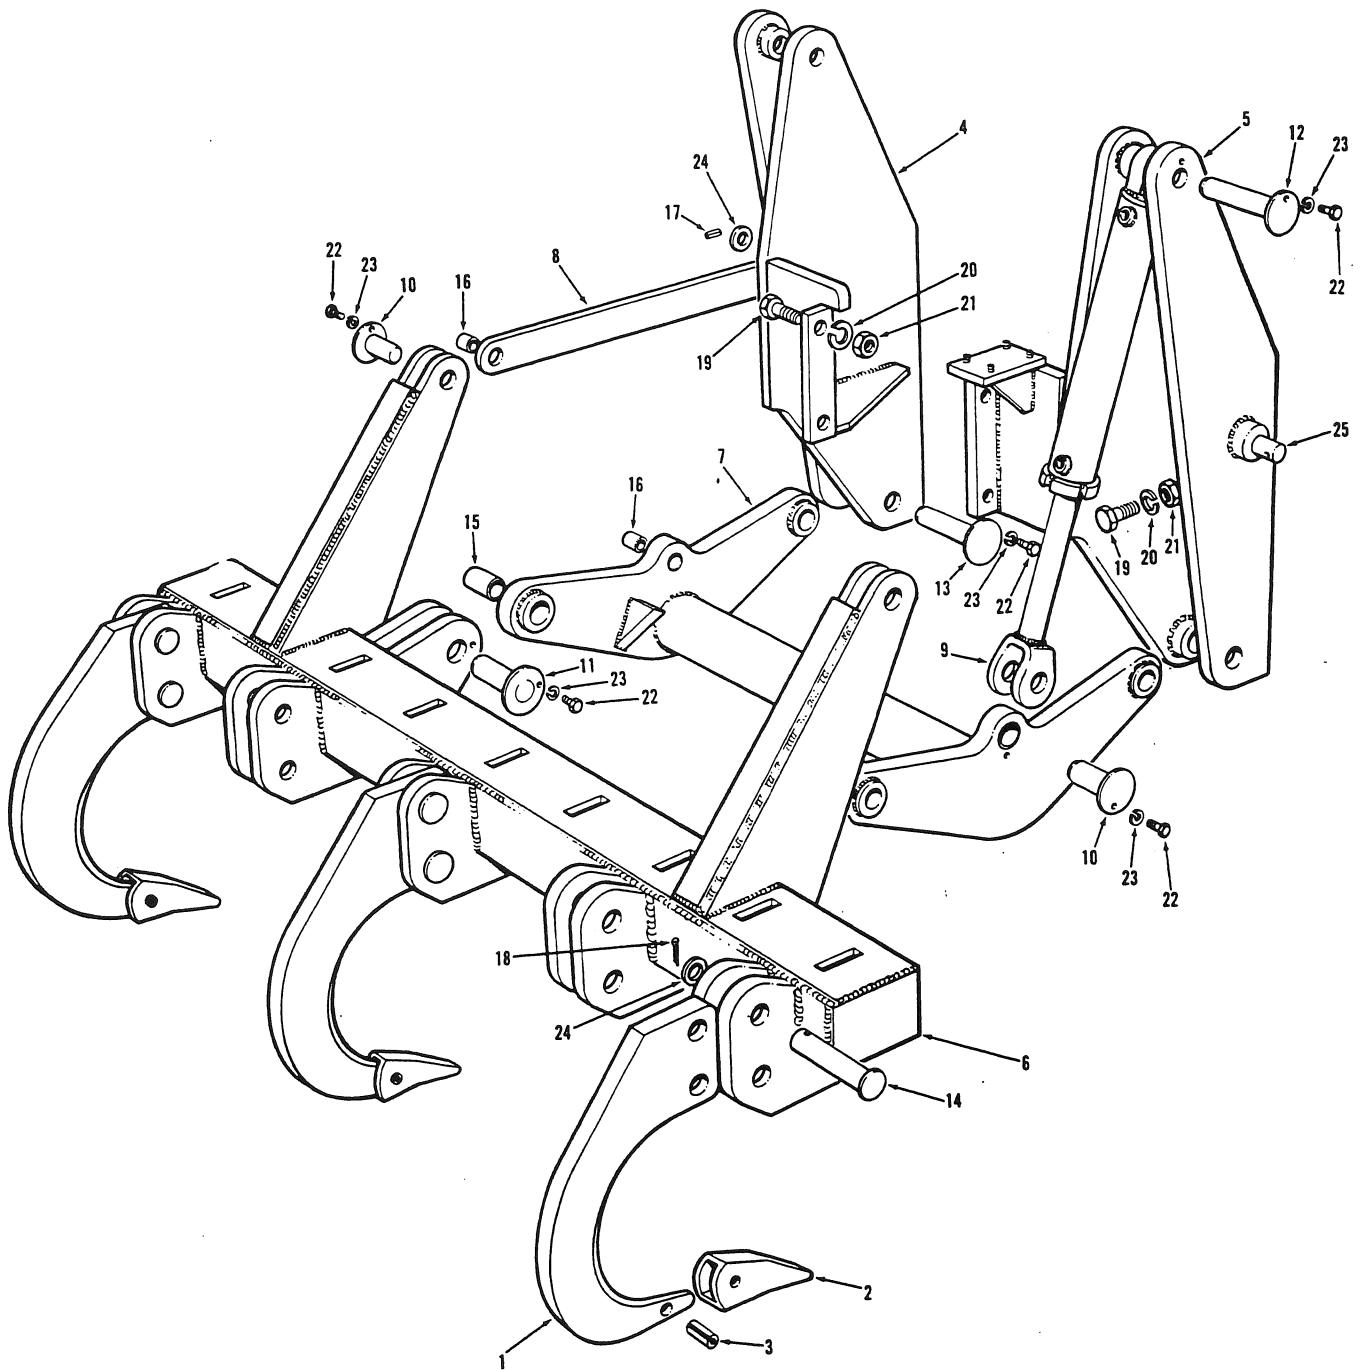
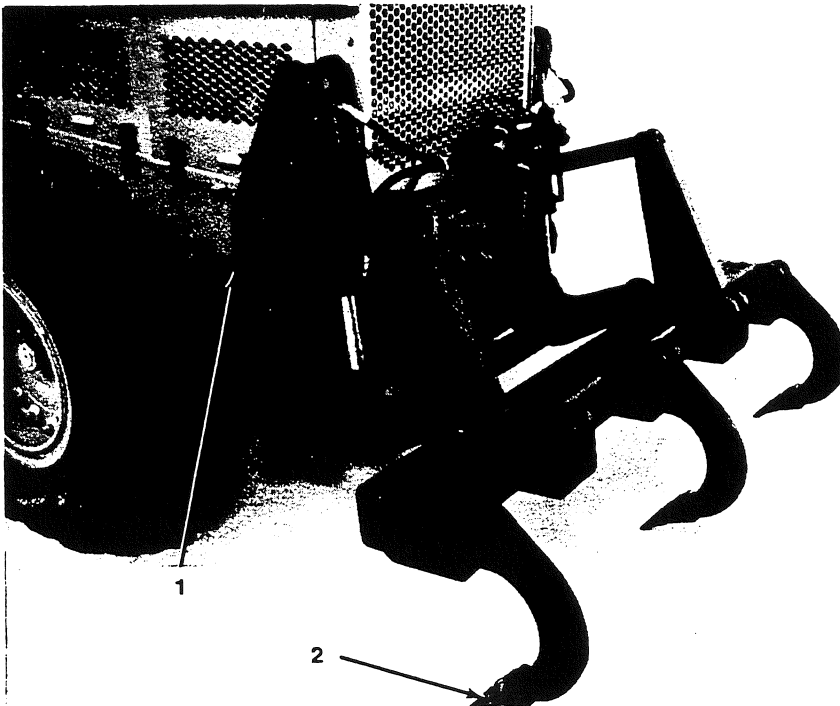

Figure 11
Figure 12
### 1. Removal and Disassembly (Fig. 11).
### 9. Assembly and Installation (Fig. 11).
KEY TO FIG. 11
13. Attach suitable lifting tackle to the ripper box (6). Place the ripper box into its position with the lower pull arms, and retain with the two pins (11), hexagon head capscrews (22) and lockwashers (23).
14. Lubricate the bearing bushings (16) in the two upper control rods. Raise the ripper box, and install the upper control rods. Retain the rods with the pins (10), hexagon head capscrews (22) and lockwashers (23). Install the flatwashers (24) and roll pins (17).
15. Install the ripper tooth shanks (1), and retain with the pins (14), flatwashers (24) and new cotter pins (18) (two per tooth).
20. Adjustments (Figs. 11 and 12). The pitch of the ripper can be adjusted manually by removing the two roll pins and flatwashers, moving the upper control rods to engage an alternative hole with the pins, and installing the flatwashers and roll pins (1. Fig. 12).
21. Worn tooth points (2, Fig. 11) can be replaced by driving out the pin (3, Fig. 11) and removing the point (2, Fig. 12).